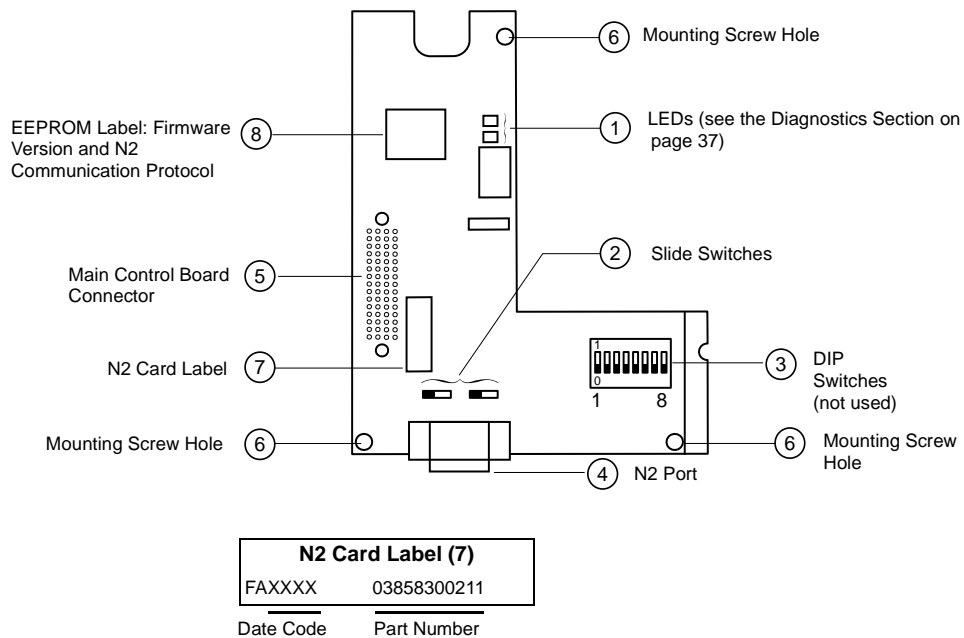

Figure 1: Board Layout
Figure 1 identifies the location of the diagnostic LEDs (1), the slide switches (2), the DIP switches (3), the N2 port (4), the main control board connector (5), the three mounting screw holes (6), the N2 card label (7), and the EEPROM label (8).